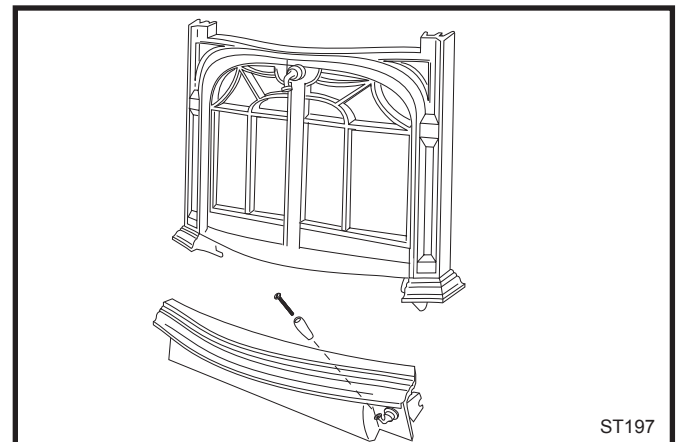

Fig. 27 Attach the handle to the control door.
3. Attach the wooden handle to the control door using the #8-32 x 2" screw from the parts bag. (Fig. 27)